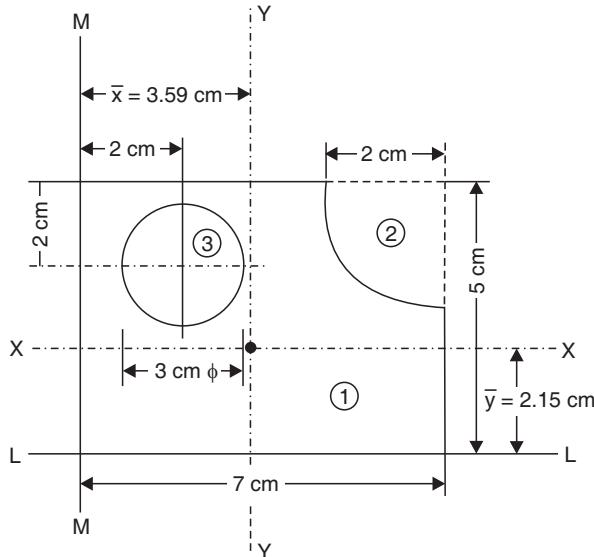

Fig. 7.23
**Example 7.4.** Determine the location of the centroid of the plane figure shown in Fig. 7.23.
**Sol.** Refer to Fig. 7.23.